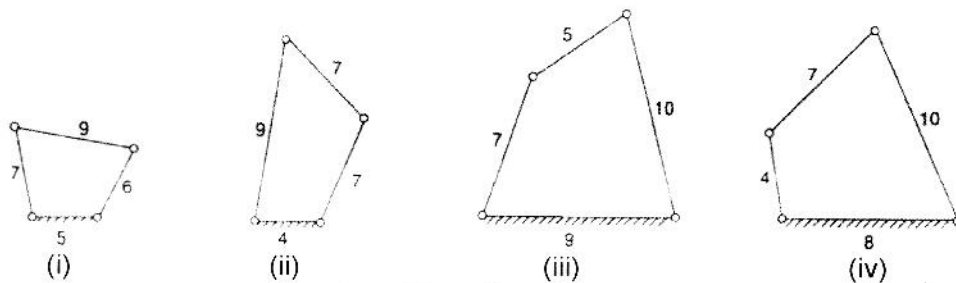

Figure 2
c) Indicate the type of each mechanism in the figure 2, whether crank-rocker or double rocker or double crank. Dimensions are given in standard units of length.